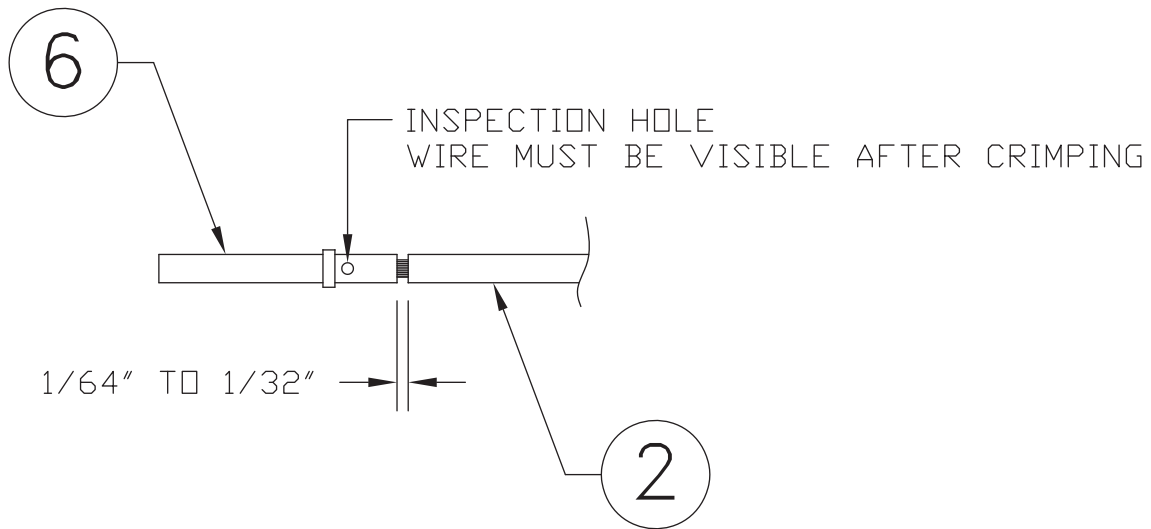

Figure 6-3 Insulation/Contact Clearance
- Strip back approximately 0.17 inch of insulation from each wire of the shielded cable (item 2, Figure 6-3) and crimp a contact (item 6, Figure 6-3) to each conductor. It is the responsibility of the installer to determine the proper length of insulation to be removed. The wire must be visible in the inspection hole after crimping and the insulation must be 1/64 – 1/32 of an inch from the end of the contact as shown in Figure 6-3.
2. Strip back approximately 0.17 inch of insulation and crimp a contact to the 4-inch length of wire. It is the responsibility of the installer to determine the proper length of insulation to be removed. The wire must be visible in the inspection hole after crimping and the insulation must be 1/64 – 1/32 of an inch from the end of the contact as shown in Figure 6-3.